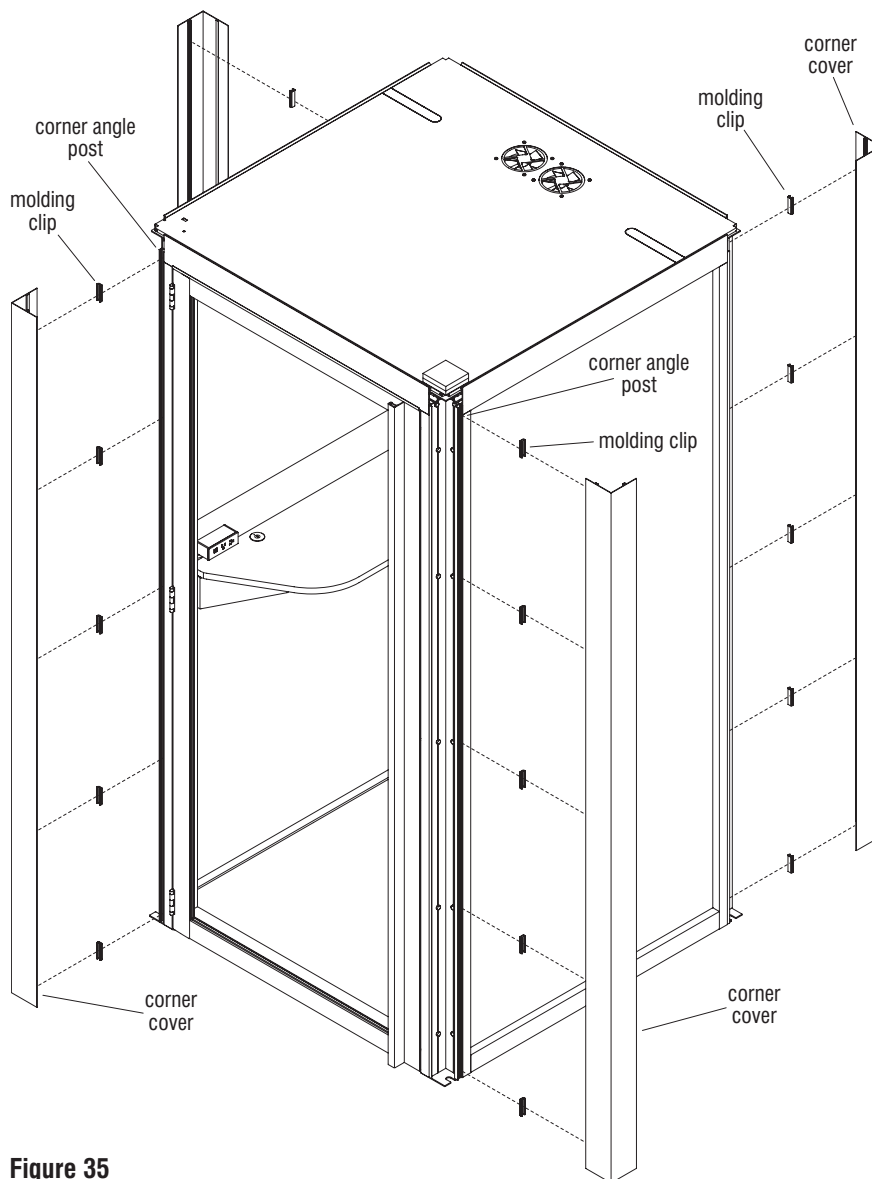

Figure 35
1. Each corner cover comes with five molding clips installed (shown uninstalled, Figure 35). Check to make sure all molding clips are evenly spaced, and fully snapped on each corner cover before proceeding to the next step.
2. With the assistance of a second person, have one person position and hold each corner cover next to one of the four inner corner angle posts with the clips oriented as shown. With the corner cover held in position, the second person uses a weighted rubber mallet to tap on the corner cover, over the molding clips and seat them into the vertical frame channel to secure the corner cover in place (Figure 35 & Detail H3).